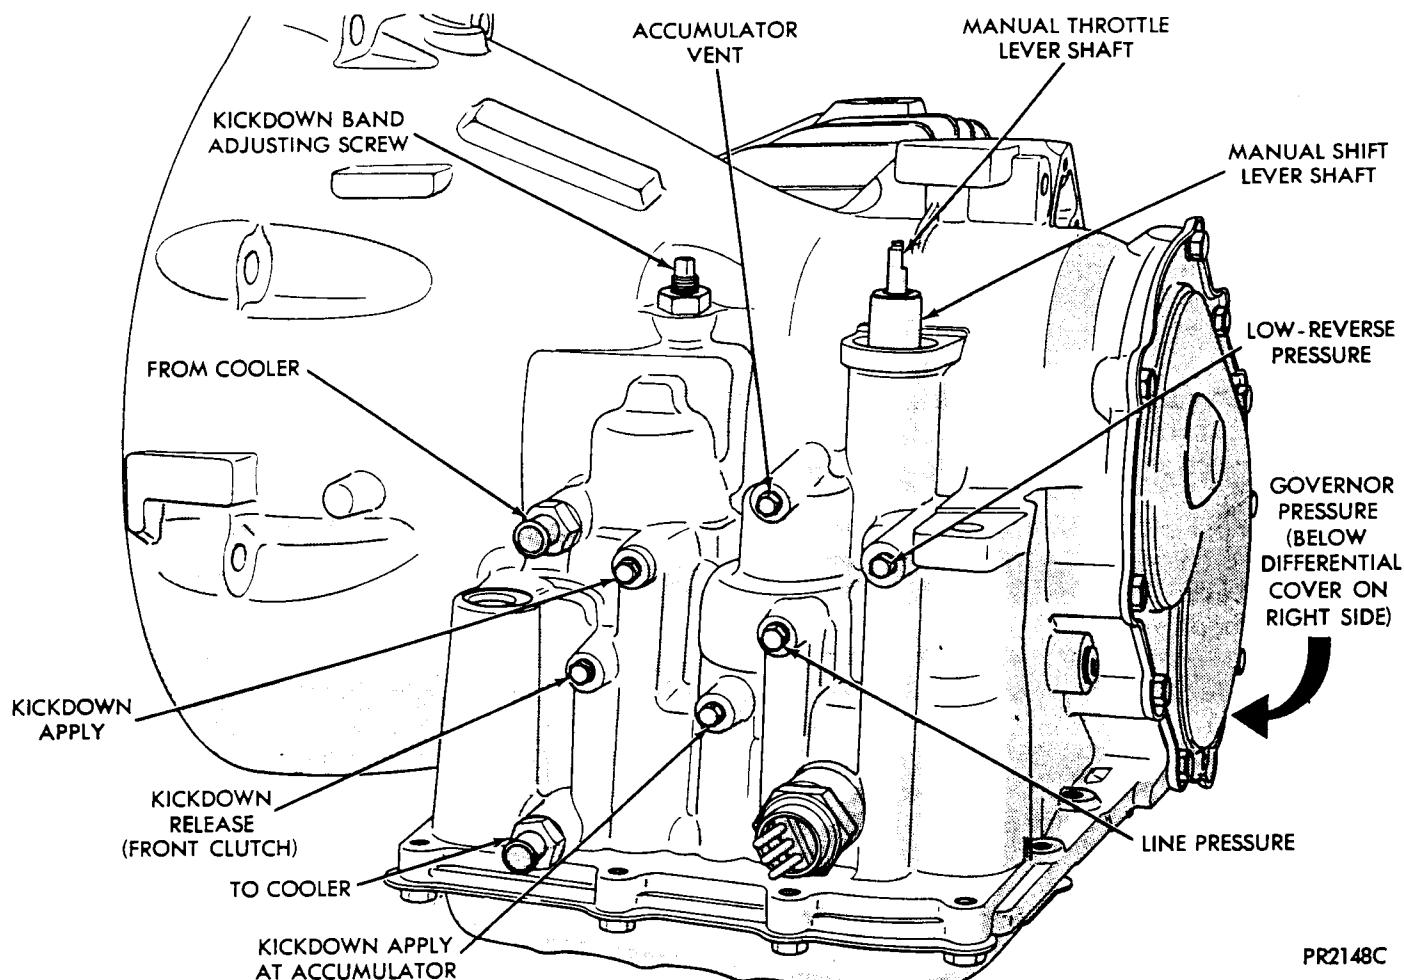

Fig. 3—Transaxle (Left Side)
Test port locations are shown in (Fig. 3).
(1) Connect a 0-150 psi pressure gauge to governor pressure take-off point, located at lower right side of case, below differential cover (Fig. 3).
(2) Operate transaxle in third gear to read pressures and compare speeds shown in chart.